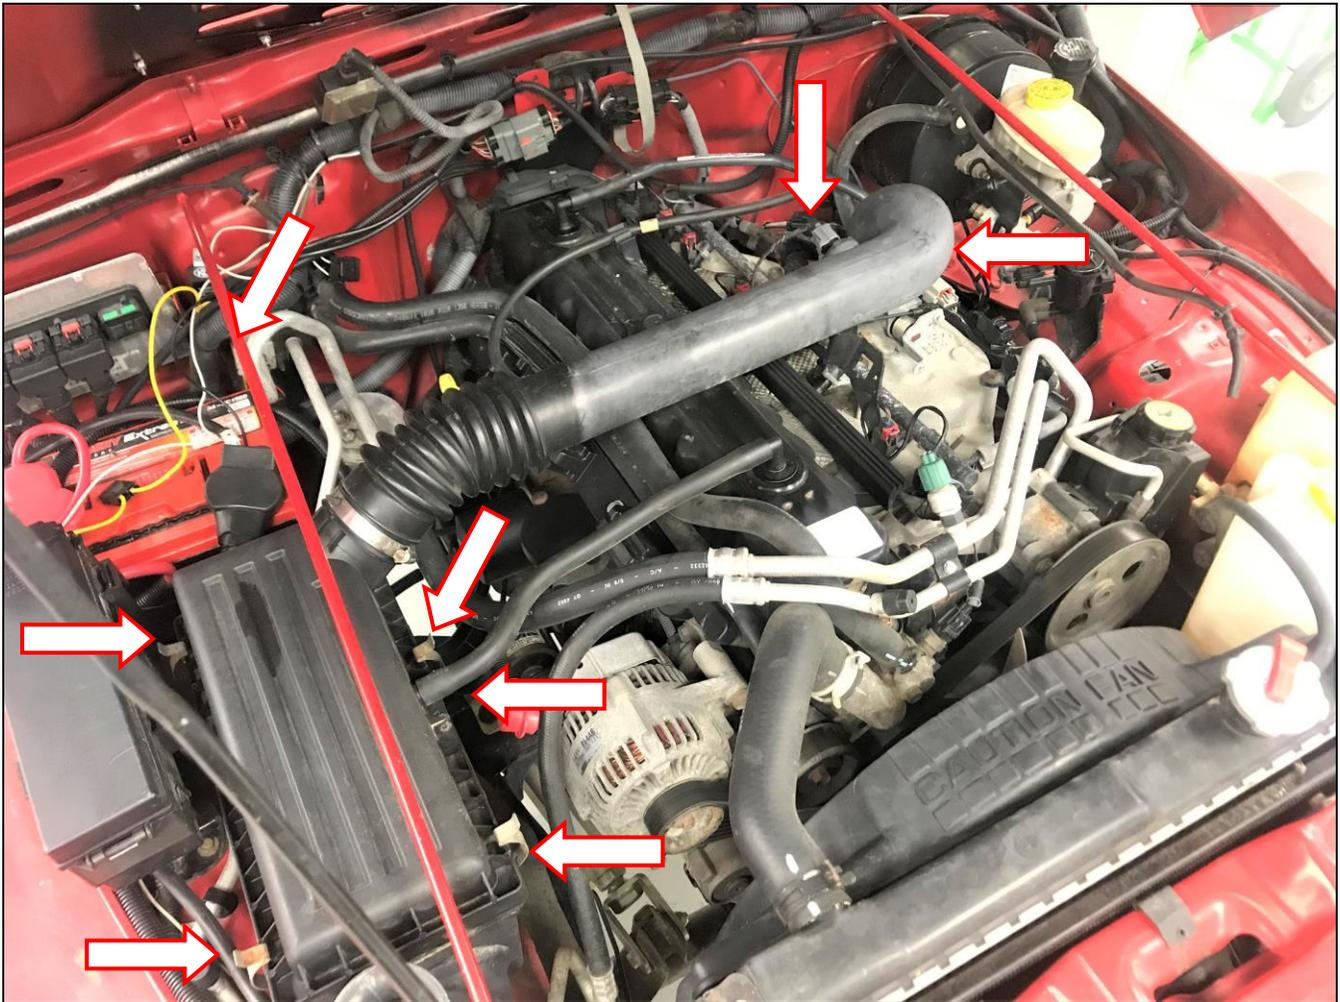

Figure 1
2. Remove the passenger's side factory strut bar. Set aside for reuse (**Figure 1**).
3. *****For 2005 & 2006 Models:** Disconnect the temperature sensor wiring harness from the temp sensor on the intake tube (**Figure 1**).
4. Disconnect the Crank Case Vent (CCV) hose from the factory intake tube. *****For 2005 & 2006 Models:** Disconnect the CCV hose from the factory airbox top (**Figure 1**).
5. Unclip the (x3) metal clips securing the top half of the airbox to the lower half (**Figure 1**).
6. Loosen the hose clamp securing the intake tube to the throttle body. Remove intake tube, airbox top, and factory air filter (**Figure 1**).